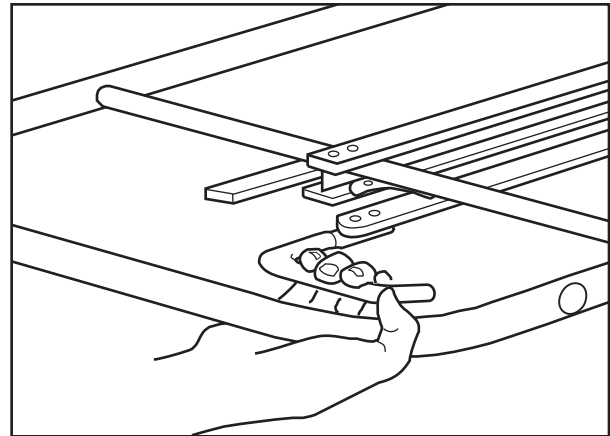

Figure 10 - Foot-End Control Handle
- The foot-end control (Figure 10) handle unlocks the rear legs.